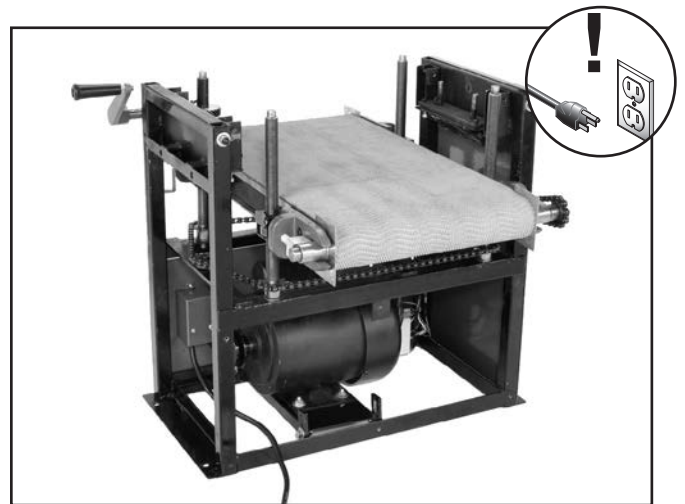

Figure 45. Drum sander disassembled to **Step 10**.
- Remove the front roller end guard covers (4 Phillip head screws) and the rear roller end guard covers (4 Phillip head screws), and set the covers aside. The drum sander should now look similar to **Figure 45**.